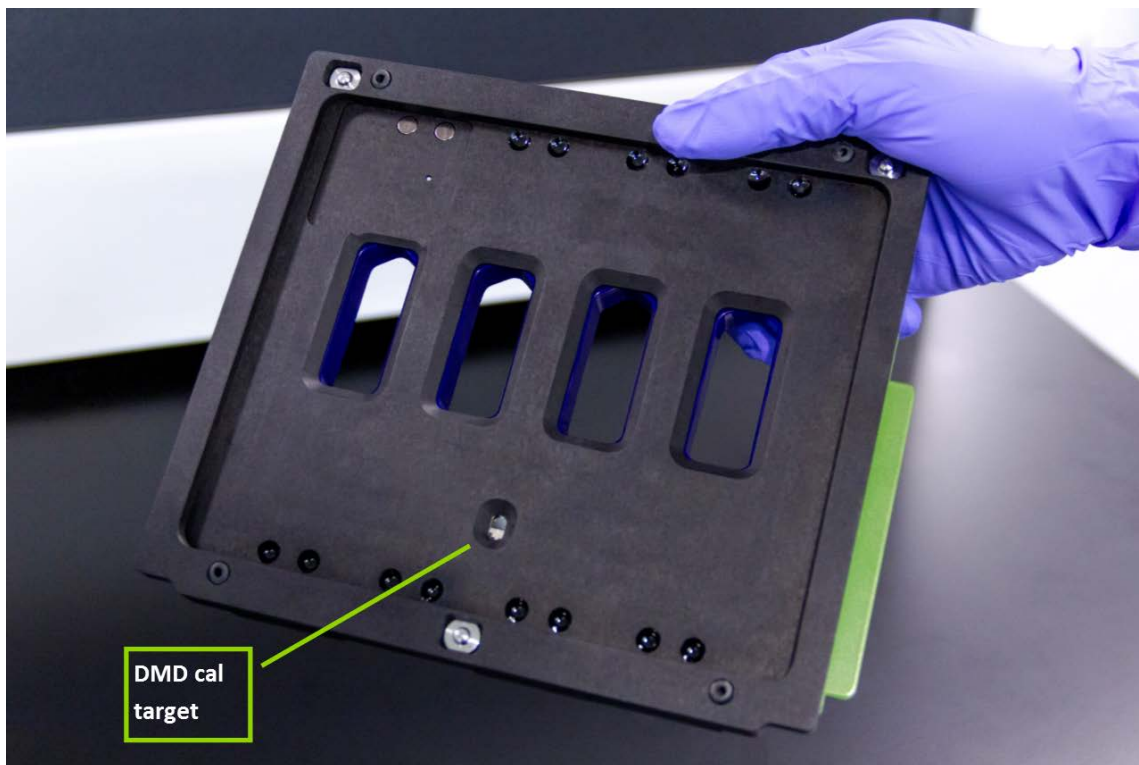

Figure 93: Underside of slide holder with DMD cal target indicated
- Visually inspect the DMD calibration target (see Figure 93) to ensure it is clear of all debris. Do not make contact with this area unless necessary to gently wipe away debris. DO NOT apply pressure to this area. Following this cleaning procedure promptly after each run should be sufficient to keep this area clean.